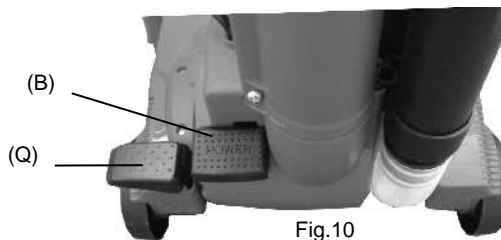

Fig.10
1. Turn the upper Power Cord Holder (K) 180° to release the Power Cord (R), and insert the power cord into the cord hook.
2. Plug the Power Cord (R) into the mains.
3. Depress the cleaner Release (Q) pedal to release the handle. See fig.10.
4. Depress the Power Pedal (B) to turn on the unit. See fig.10.